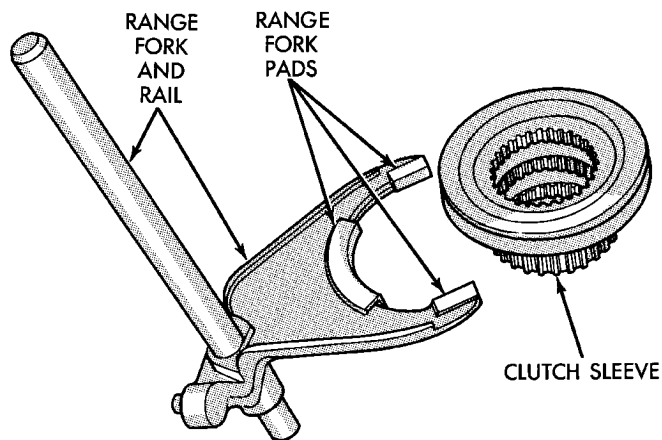

Fig. 61 Assembling Range Fork And Clutch Sleeve
(3) Install new pads on range fork (Fig. 61), if necessary.
(4) Install clutch sleeve in range fork (Fig. 61).